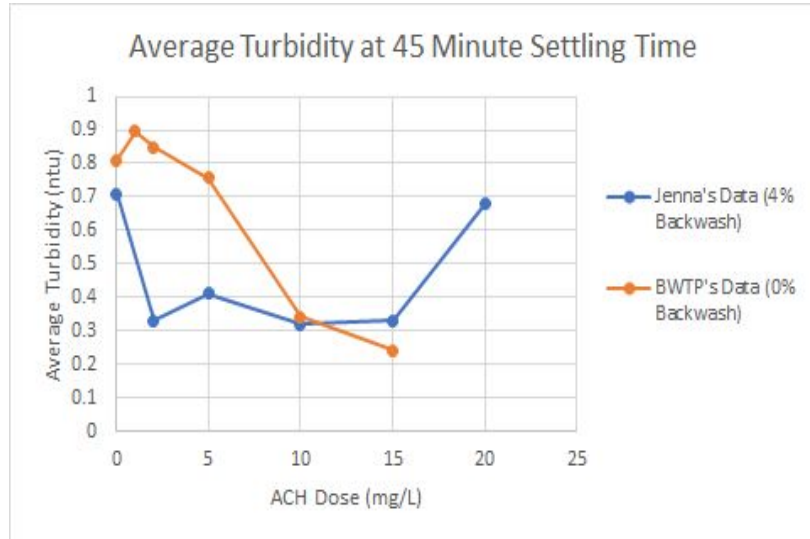

Figure 4.
- Figure 4. Group 4. *Recycling backwash data*. 2021, graph of turbidity after 45 minutes for both BWTP data and Jenna data, Bozeman, Montana.